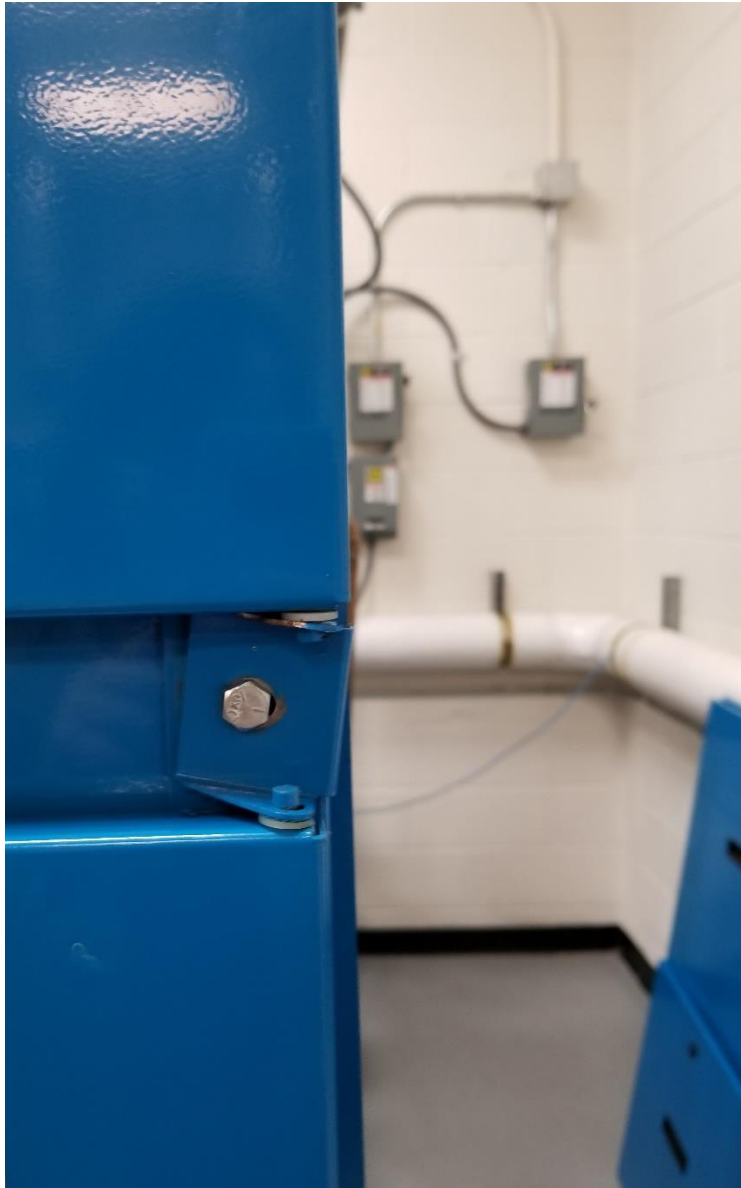

Figure 1
3. Remove front top door by removing 7/16" bolt shown in figure 1. Before removing bolt make sure front bottom door is locked shut. Once top door is removed, tighten bracket to hold bottom front door on.